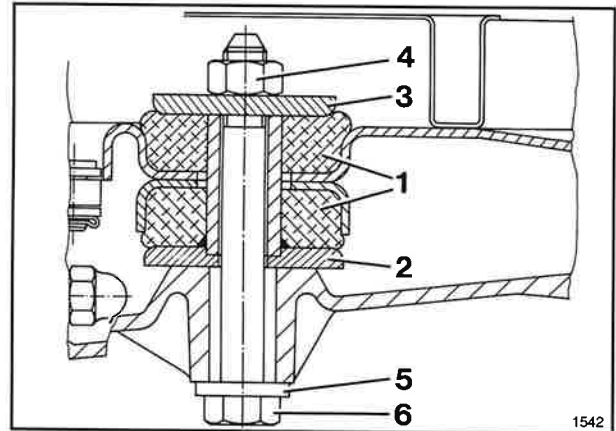
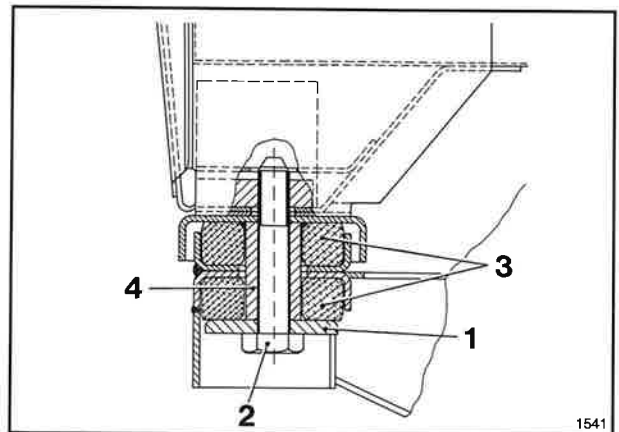

Fig. 22
Fig. 23
- 33 Smear fastening screws of body supports with Loctite Anti-seize and mount body supports at towing flange acc. to fig. 22 and at cross member acc. to fig. 23 and tighten to 250 Nm.